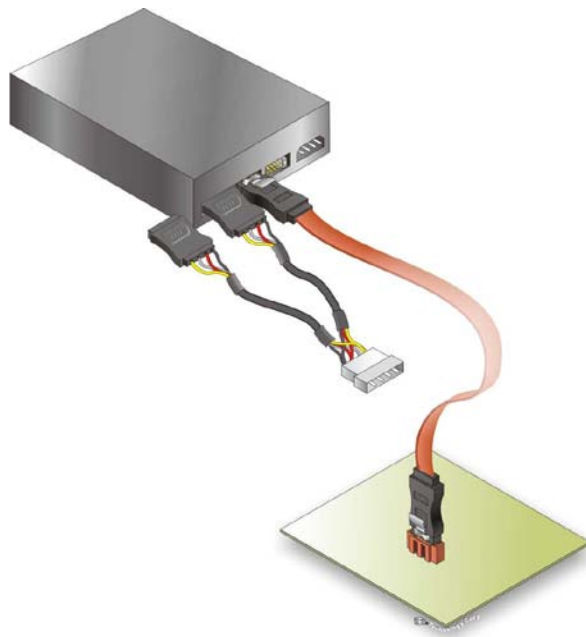

Figure 4-8: SATA Power Drive Connection
Step 3: Connect the cable to the SATA disk. Connect the connector on the other end of the cable to the connector at the back of the SATA drive. See **Figure 4-8**.
Step 4: Connect the SATA power cable. Connect the SATA power connector to the back of the SATA drive. See **Figure 4-8**.